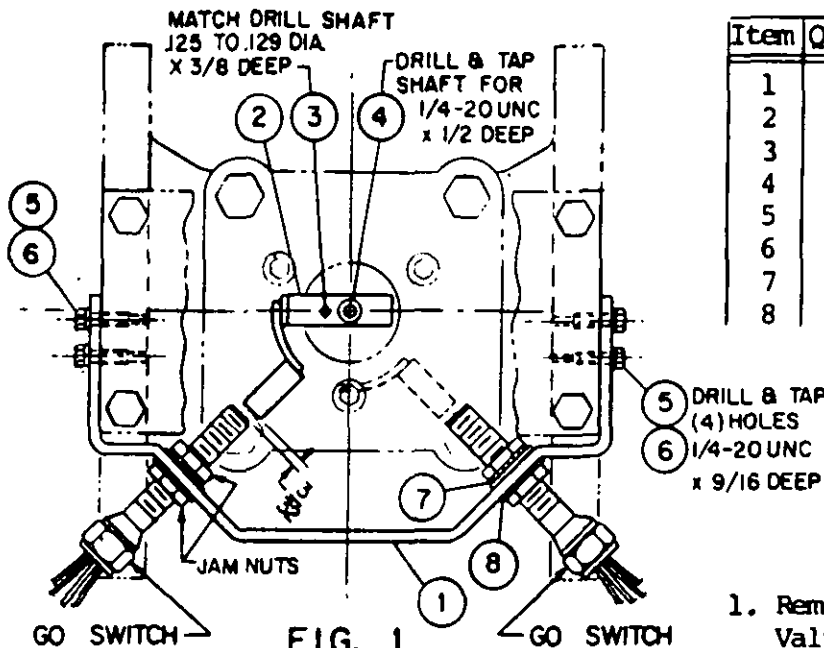

FIG. 1
4. Place Switch Activator (item 2) on shaft and secure with flat head screw (item 4). Then orient Switch Activator as shown in figure 1. Match drill shaft with hole in Switch Activator and drive roll-pin (item 3) into hole to prevent rotation.
5. Fit Mounting Bracket (item 1) to sides of Actuator mounting plate support and mark location of four mounting holes, drill and tap four 1/4-20UNC x 9/16 dp. Then secure Mounting bracket (item 1) with items 5 & 6.
6. Insert GO® Switches into slots on Mtg. Bracket (item 1) and secure with two jam nuts that come with switches and washers items 7 & 8.
7. Adjust Switches to sense Actuator (item 2) in full open and full closed positions.